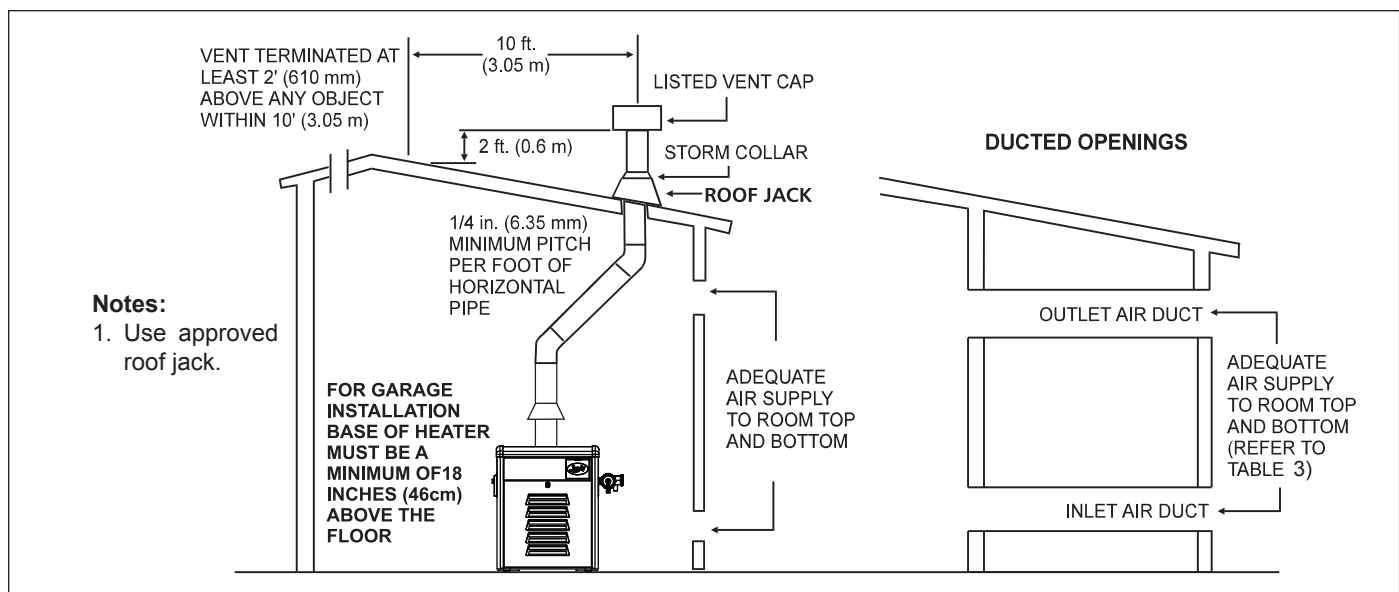

Figure 5. Indoor Installation Venting (USA), or Outdoor Shelter (Canada)
All indoor installations must have openings to outside air for combustion, ventilation, and dilution of flue gases from inside the building, see Figure 5 and Table 3. Zodiac Pool Systems, Inc., does not recommend indoor installations that do not provide combustion air from outside the building.
Outside Air Supply: When combustion air is supplied directly through an outside wall, each opening should have a minimum free area of one square inch per 4,000 BTU/h (1.2kW) input of the total input rating of all appliances in the enclosed area. If air is provided through horizontal ducts, each opening and duct must provide one square inch of flow area for each 2000 BTU/h (0.6 kW). These requirements are summarized in Table 3. Note that the areas specified are net free areas and should be increased when the openings are covered by screens, louvers, grills or other protective covers. See Figure 5 and Table 3 notes.
The draft hood outlet is to be connected to an unobstructed vent pipe of the same diameter, terminating outside the building. The vent must terminate at least two (2) feet (0.6 m) above the highest point of the roof or other object that is within ten (10) feet (3.0 m) of the vent termination. The vent pipe must have a listed vent cap which allows a full equivalent opening for flue products, see Figure 5. The top of the vent cap must be at least five feet in vertical height above the draft hood outlet.